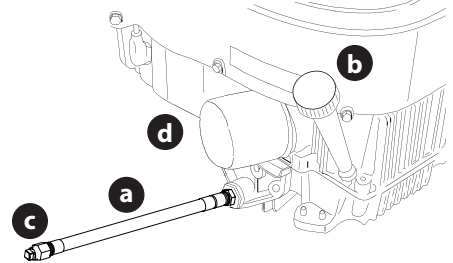

Figure 33
1. Locate the oil drain hose (a) on the side of the engine (Figure 33).
2. Place an appropriate oil collection container with at least a 2.5-quart (2.37 liter) capacity below the opening of the oil drain hose, to collect the used oil. Remove the oil fill cap/dipstick (b) from the oil fill tube (Figure 33).
3. While holding the free end of the oil drain hose over the oil collection container, unscrew the square head hose plug (c) from the end of the oil drain hose (Figure 33). Drain the engine oil into the collection container.
5. Remove the oil filter (d) and drain into the collection container (Figure 33).
6. Replace the oil filter (d), and refill the engine with new oil as instructed in the Engine Operator's Manual (Figure 33).